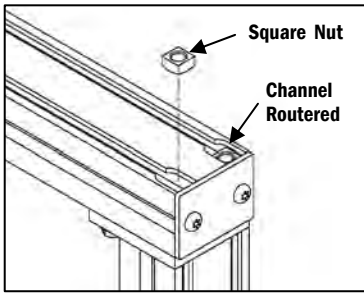

Figure 4
a. To install, insert one 5/16-18 Square Nut into each channel of the Stand's Top Extrusion (**Figure 4**). The channel has been routered to accommodate the Square Nut.